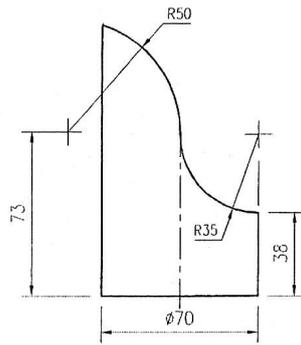

FIG. 5
5. The body for a scoop is drawn in elevation in Fig.5. Develop the full template, placing the seam on the shortest side. Scale: 1 : 10.